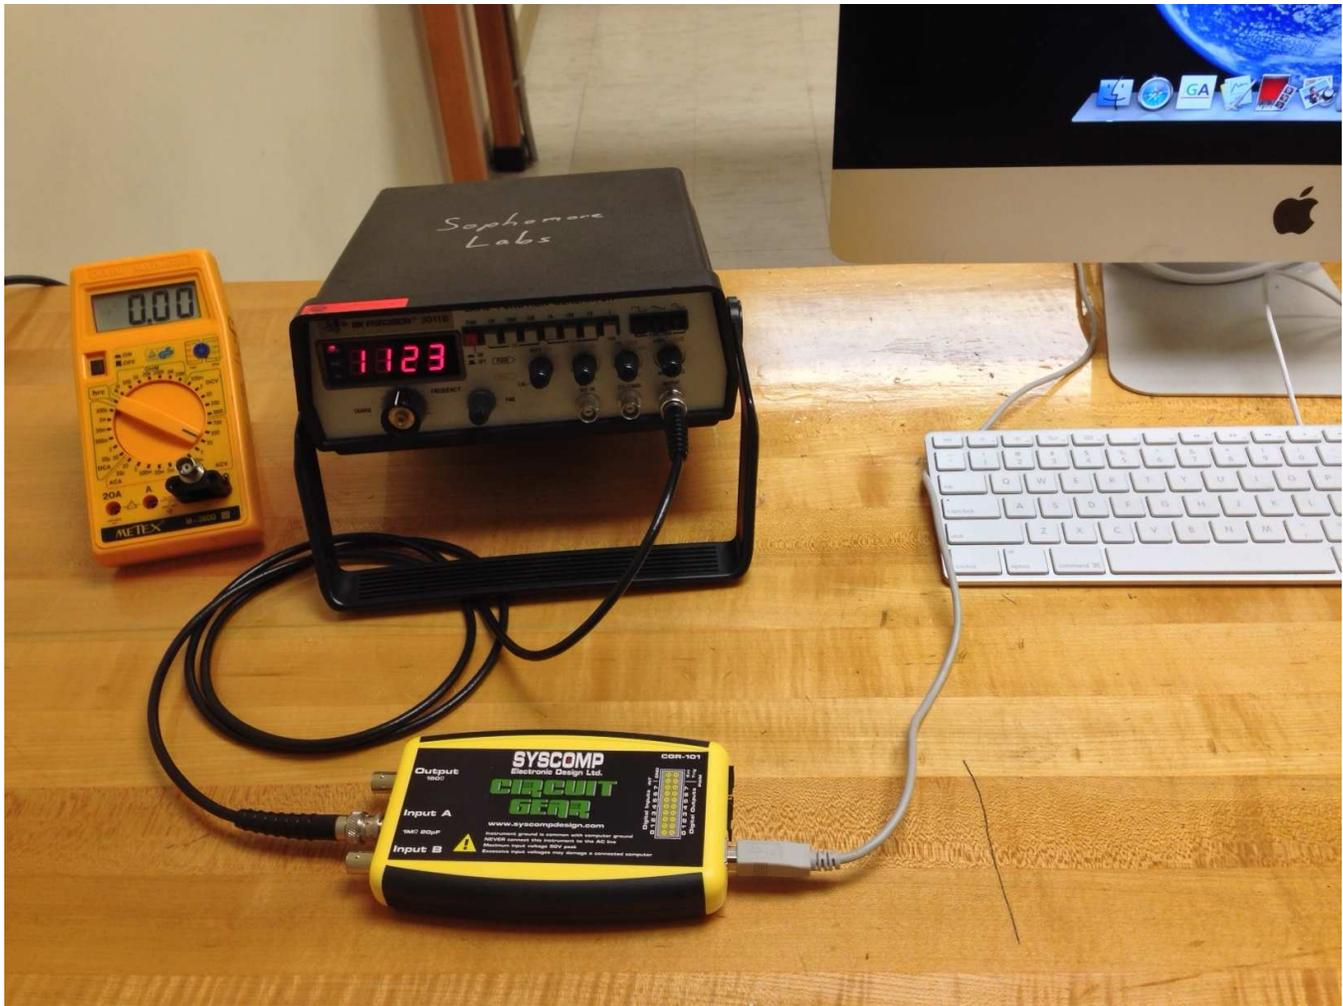

Figure 20.3: Digital Oscilloscope (*Part 1*)
2. Plug in the oscillator and connect the output to the oscilloscope, as in Fig. 20.3. The signal has been set for you. You may shift the waveform by dragging the A, B, or X cursors at the edge of the gradecule. The horizontal and vertical scales can be adjusted by using the Timebase Controls and Vertical Controls, respectively.